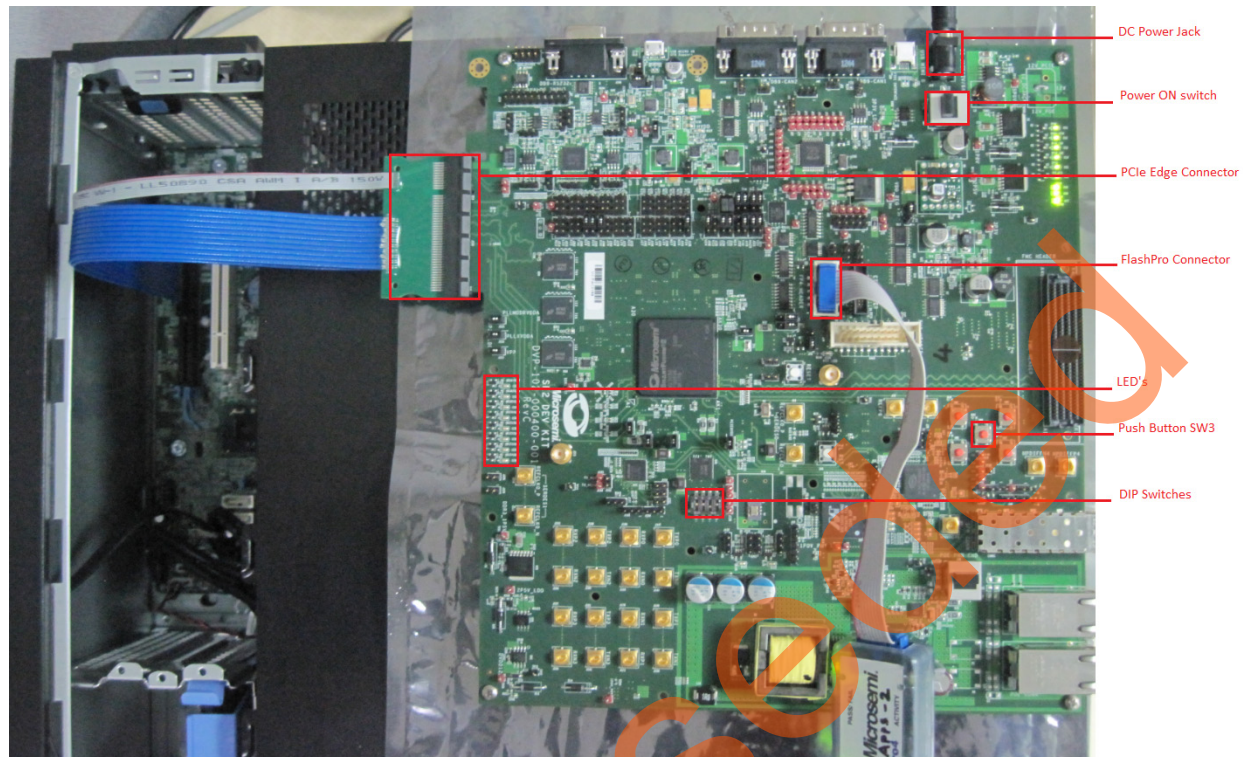

Figure 6 • SmartFusion2 Development Kit Setup
4. The board setup is shown in Figure 6.